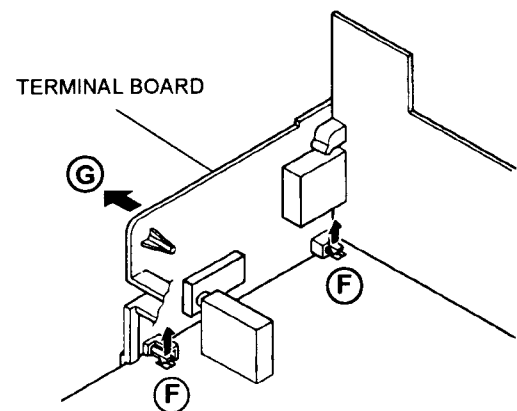
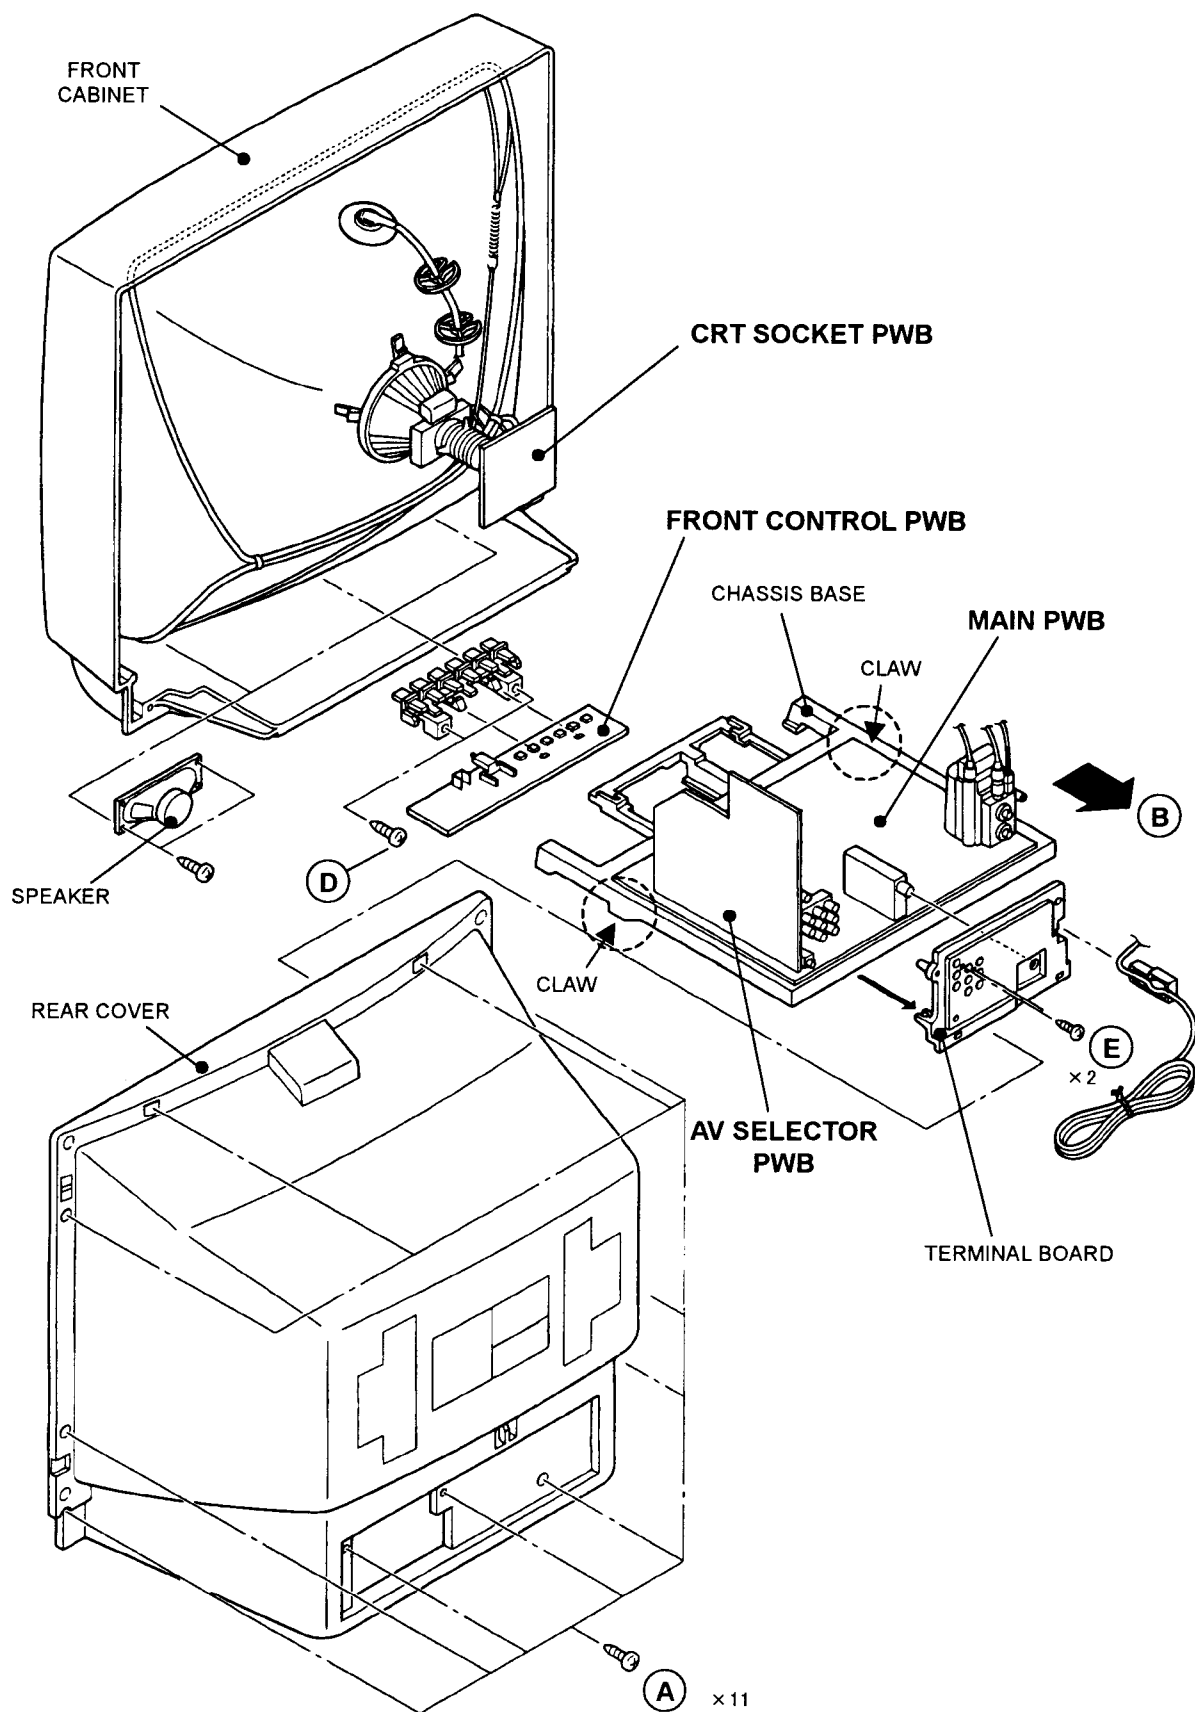

Fig. 1
Fig. 2
2. Remove the 11 screws marked ① as shown in Fig.2.
2. Draw the chassis backward along the rail in the arrow direction marked ② as shown in the Fig.2.
1. Remove the 2 screws marked ③ as shown in Fig.2.
1. Remove the 2 screws marked ④ as shown in Fig.2.
2. After removing the claw marked ⑤ in the direction of arrow mark as shown in Fig.1.
3. When you pull out the AV TERMINAL BOARD in the direction of arrow marked ⑥ as shown in Fig.1, it can be removed.
(1) Power off Switch off the power and disconnect the power cord from the outlet.
(2) Replace the memory IC. Be sure to use memory ICs written with the initial data values.
(3) Power on Connect the power cord to the outlet and switch on the power.
(4) System constant check and setting 1) Simultaneously press the DISPLAY key and VIDEO STATUS key of the remote control unit. 2) The SERVICE MENU screen of Fig.1 is displayed. 3) While the SERVICE MENU is displayed, again simultaneously press the DISPLAY and VIDEO STATUS keys to display the Fig.2 SYSTEM CONSTANT screen. 4) Refer to the SYSTEM CONSTANT table and check the setting items. Where these differ, select the setting item with the MENU UP / DOWN key and adjust the setting with the MENU LEFT / RIGHT keys. (The letters of the selected item are displayed in yellow.) 5) After adjusting, release the MENU LEFT / RIGHT key to store the setting value. 6) Press the EXIT key twice to return the normal screen.	SERVICE MENU PICTURE THEATER SOUND OTHERS LOW LIGHT RF AFC I2C BUS CTRL HIGH LIGHT SELECT BY OPERATE BY ▲▼ ◀▶ EXIT BY EXIT Fig.1 SYSTEM CONSTANT MODEL PLUG IN CCD : : : AV-32920 YES YES MN1874876 XXX SELECT BY OPERATE BY ▲▼ ◀▶ EXIT BY EXIT Fig.2
(5) Receive channel setting Refer to the OPERATING INSTRUCTIONS (USER' S GUIDE) and set the receive channels (Channels Preset) as described.
(6) User settings Check the user setting items according to Table 2. Where these do not agree, refer to the OPERATING INSTRUCTIONS (USER' S GUIDE) and set the items as described.
(7) SERVICE MENU setting Verify what to set in the SERVICE MENU, and set whatever is necessary. (Fig.1) refer to the SERVICE ADJUSTMENT for setting.